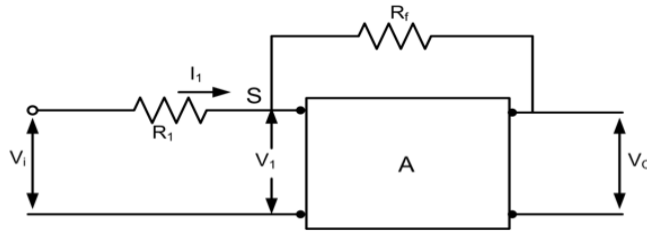

Fig. 2.7: Block diagram of Op Amp with feedback
**The virtual ground:** To illustrate the features of an operational amplifier, consider the feedback circuit, Fig. 2.7 in which negative voltage feedback is produced by the resistor  $R_f$  connected between the input and output. Note that the feedback is negative because of phase inversion in the amplifier. The feedback ratio in operational feedback can vary from unity for a high impedance source to  $R/(R + R_f)$  for a low impedance source since, the feedback voltage is sufficiently connected in parallel with the input signal source. It is convenient to analyse the operational feedback circuit by applying Kirchhoff's current law to the branch point S. Since, the amplifier input impedance is large, the current in this branch is negligible, which means the current in  $R$  equals the current in  $R_f$ .